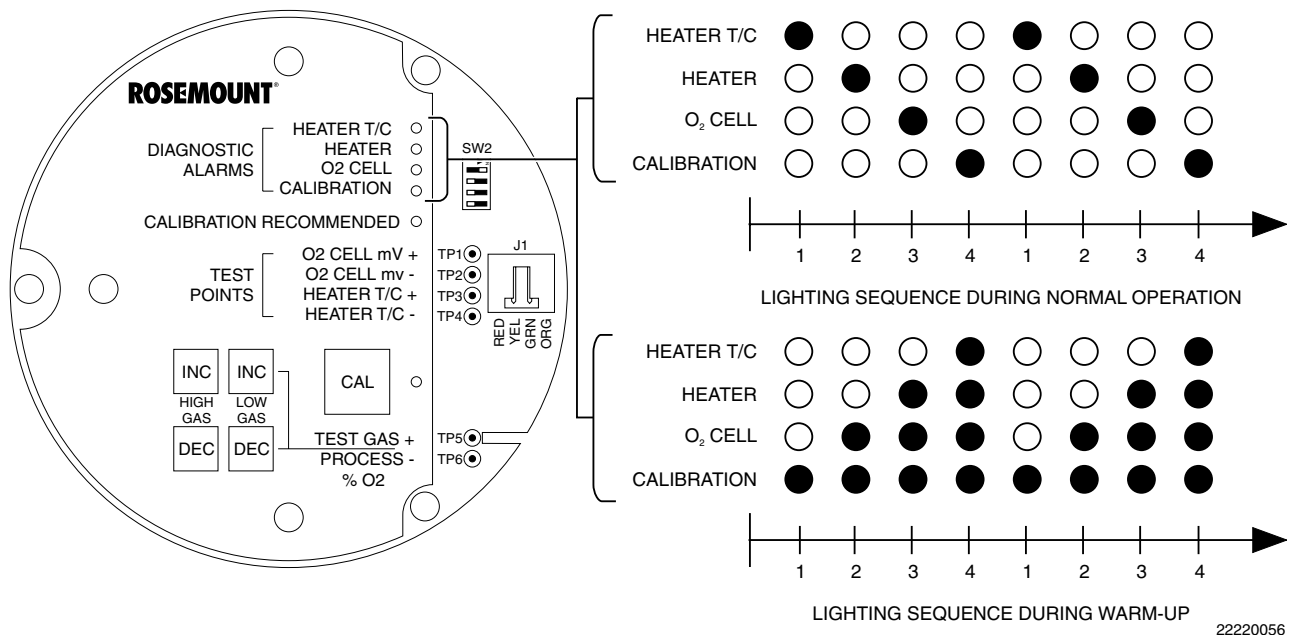

Figure 3-3. Startup and Normal Operation
- a. **Startup Display.** When power is applied to the probe, the cell heater turns on. It takes approximately one half hour for the cell to heat to operating temperature. This condition is indicated by the top four LEDs (DIAGNOSTIC ALARMS) on the membrane keypad (Figure 3-3). Starting with the CALIBRATION LED, the LEDs light in ascending order until all four LEDs are on. At this point, all four turn off and the cycle starts again. This ramp cycle continues until the cell is up to operating temperature.
- b. **Operating Display.** The ramp cycle turns into a cycle where the diagnostic LEDs light in sequence from the top to the bottom, one at a time. After the bottom LED turns on, the sequence starts again at the top with the HEATER T/C LED (Figure 3-3).